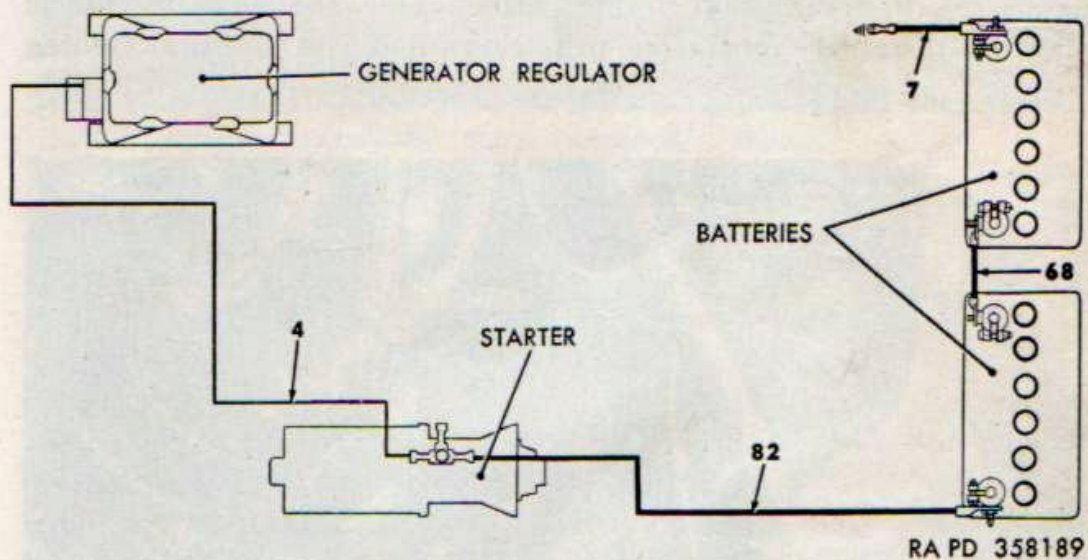

Figure 64. Starting system circuit.
- (1) *General.* The starting system circuit (fig. 64) consists of the source of power (batteries), starter switch, starter, starter switch pedal with connecting linkage, and connecting electrical cables. The outlet receptacle, furnished as part of the winterization kit, is considered a part of the starting system when a slave battery or an outside power source is used to assist in starting the engine. The starting system circuit is shown in figure 64. The starter drive pinion is shifted into engagement with the flywheel ring gear teeth and the starter switch contacts are closed manually by operation of the starter switch pedal (fig. 6).